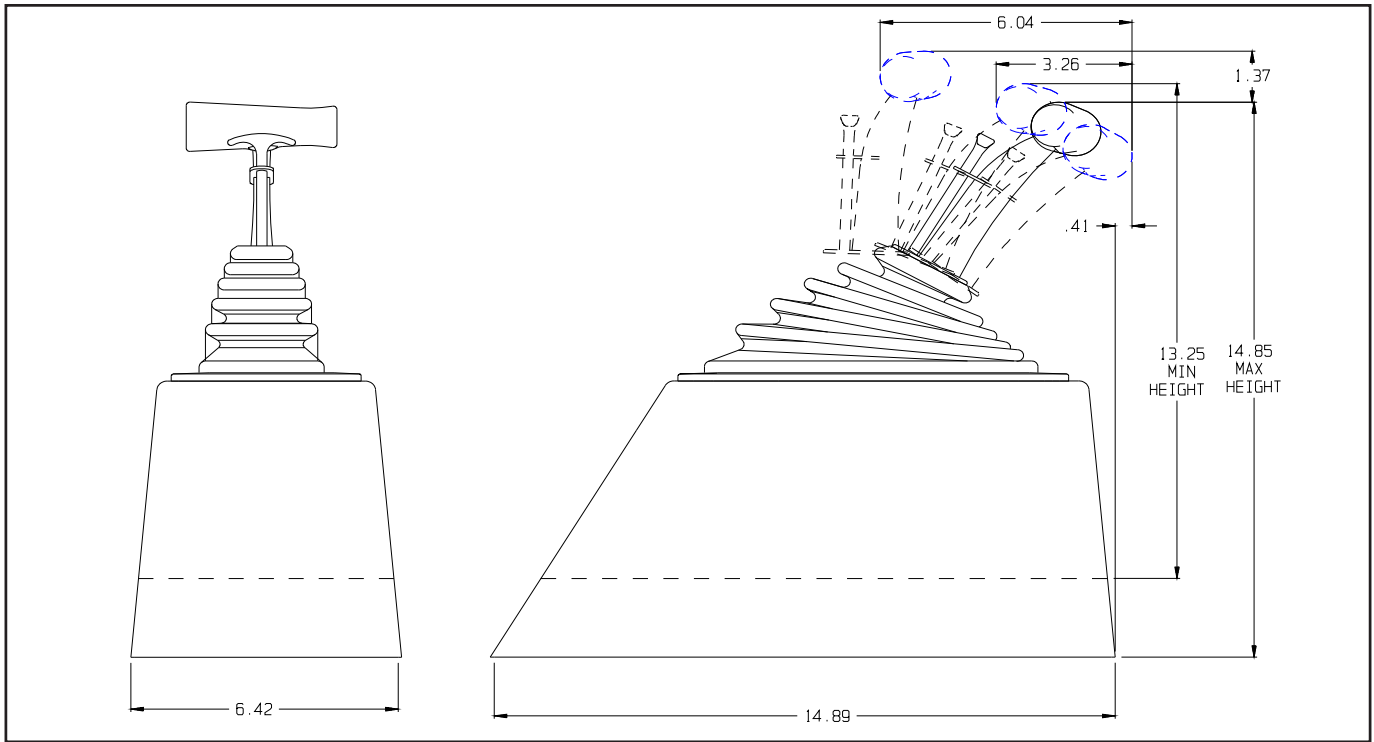

Figure 2
STEP 1. Locate the shifter on the floor of the truck where you want it to be located. The mounting brackets can mount the basic shifter assembly 1-1/2" to 3-5/8" above the floor. **Figure 2** gives the dimension of the shifter, so be sure that there is enough room where you will be mounting the shifter.
Pull the carpet away from the floorboard where the shifter mounting bracket is to be located. Place the shifter on the mounting bracket and slide the front and rear brackets up or down to get the desired height for the shifter. Tighten the four screws on the bracket. If the vehicle has a bench type seat, move seat to the full forward position. With the stick shifted to the rearmost gate position. Locate the shifter for ease and convenience of operation, see **figure 2.** Make sure the trigger and T-handle clear the dash with the shifter in the "**Park**" position. Mark the position of four mounting holes for the bracket assembly on the floor.